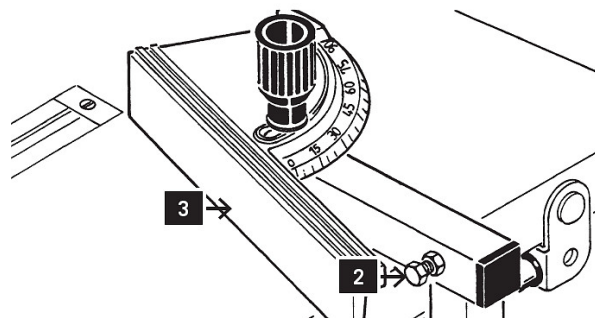

Fig. 11: Mount angle stop
Step 11: Set the angle stop (Pos.3, Fig.11) at right angles to the saw blade using the hexagon screw (Pos.2, Fig.11) in the square tube. Use the 90° angle and then make a test cut.